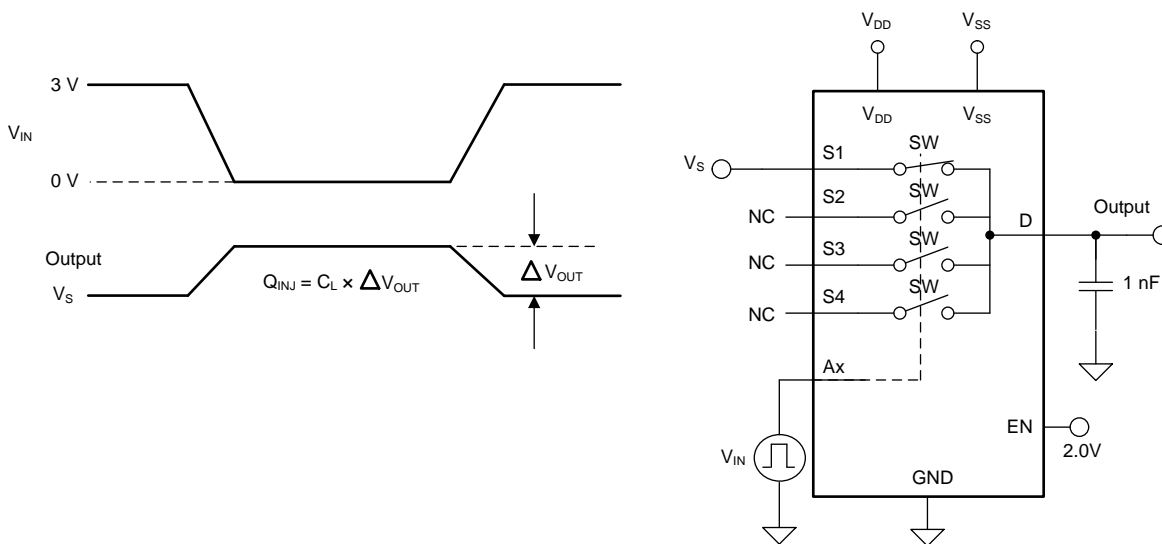

Figure 23. Charge-Injection Measurement Setup
The TMUX6104 have a simple transmission-gate topology. Any mismatch in capacitance between the NMOS and PMOS transistors results in a charge injected into the drain or source during the falling or rising edge of the gate signal. The amount of charge injected into the source or drain of the device is known as charge injection, and is denoted by the symbol  $Q_{INJ}$ . Figure 23 shows the setup used to measure charge injection from source (Sx) to drain (D).